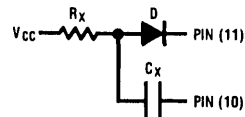

FIGURE 2
- If C_X is an electrolytic capacitor a switching diode is often required for standard TTL one-shots to prevent high inverse leakage current (Figure 2).